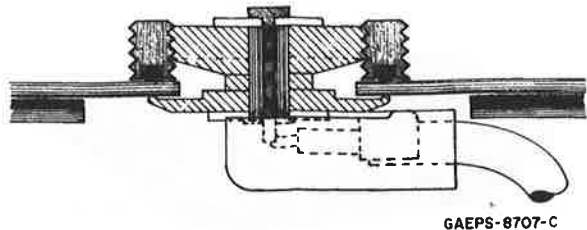

Figure 8 Roof mount in Vehicle with Dome Light or Removable Headlining
- Complete the installation per the installation procedure given for vehicles with single wall construction. A completed mount is illustrated in *Figure 8*.